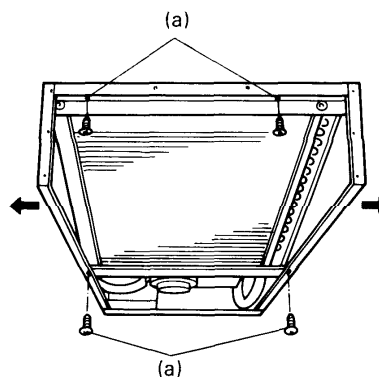

Fig. 8
- (1) Remove the front panel. See 9-2-(1) and (2) (Page 48)
- (2) Remove the top panel by unfastening ten screws.
- (3) Unfasten the four screws **(a)** to pull out the evaporator and drain pan. Slightly open the side panels as shown by the arrows at this time. (See Figure 8.)